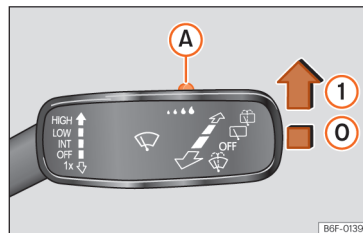

Fig. 87 Windscreen wipers lever: adjust the rain sensor (A).
Push the lever to the desired position >>> Fig. 87.
- ① Rain sensor on; automatic wipe if necessary.
When the ignition is switched off and then back on, the rain sensor stays on and starts operating again when the windscreen wipers are in position >>> Fig. 87 ① and the vehicle is travelling at more than 16 km/h (10 mph).